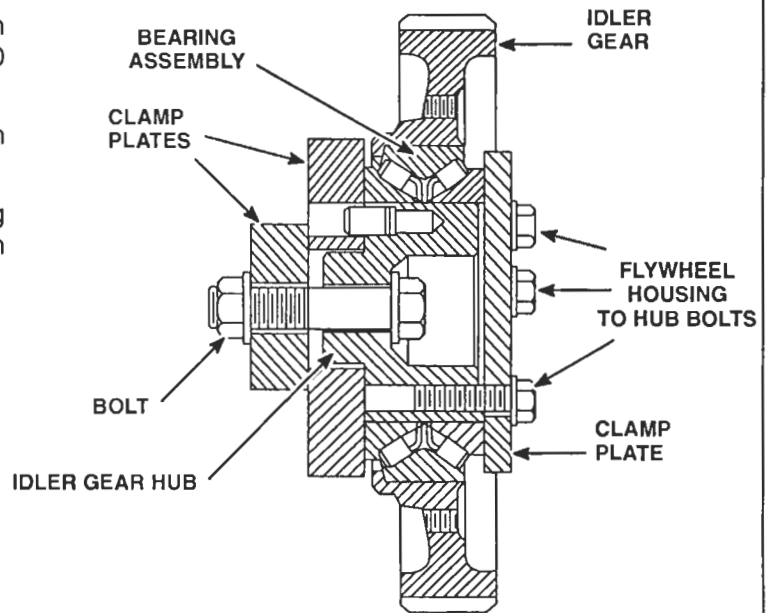

Figure 8. Fixture for Testing Bearing Pre-Load
1. Attach the plates to the idler gear with 1/2-13 bolt, washers and nuts (Figure 8.) Tighten the bolt to 80-90 lb-ft (108-122 N·m) torque.